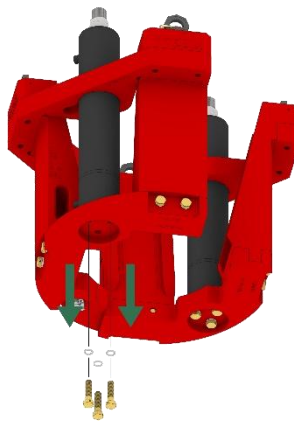

Fig. 29
**Step 3:** Remove the cylinder retainer bolts from the bottom body plate. See Figure 29.